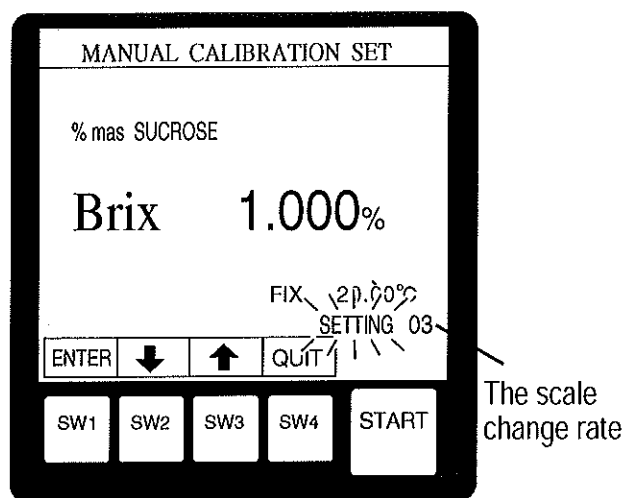
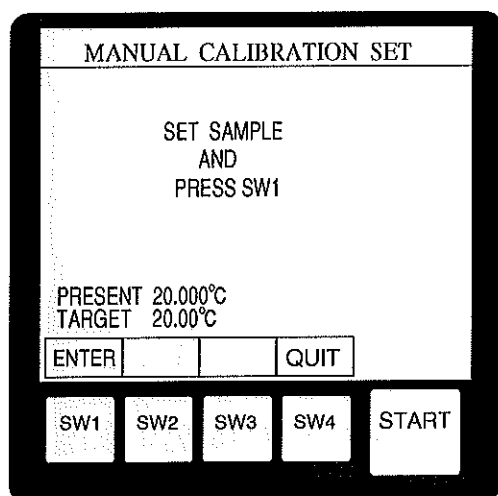

Fig.16-3
Fig.16-2
- Use the SW2(↓) or SW3(↑) key to adjust the arrow (→) to "7 MANUAL CALIBRATION", then press the SW1(ENTER) key. The display switches to a screen as shown in Fig. 16-2 or 16-3.
(1) When you are in a screen as shown in Fig.16-2
If the scale change rate of RX-007 α is currently set to "00"(where the change rate is 0), the display switches to a screen as shown in Fig.16-2. When RX-007 α is shipped from the factory, the change rate is set to "00" (where the change rate is 0).
As the unit switches to a screen as shown in Fig.16-2, the scale change rate is "00" (where the change rate is 0 as set when shipped). If only confirmation is required, press the SW4(QUIT) key, and the unit switches back to a screen as shown in SET UP MENU screen. Press the SW4(QUIT) key again, and the display switches back to a screen as shown in the measurement (or ZERO SET END) display screen.
- While in a screen as shown in Fig.16-2, drop the standard liquid or sample to be adjusted onto the prism surface and close the cover plate, then press the SW1(ENTER) key. After the current temperature(PRESENT) reaches the target temperature(TARGET), the unit starts measurement and switches to a screen as shown in Fig.16-3 after 4 second.
(2) When you are in a screen as shown in Fig.16-3
If the scale change rate of RX-007 α is currently set to "01" - "50" the display switches to a screen as shown in Fig.16-3.
This screen shows the scale change rate set previously and Brix of the liquid used at that time. In the case of Fig. 16-3, for example, the scale change rate is "03".
- Use the SW2(↓) or SW3(↑) key to adjust the arrow(→) to "8 MANUAL CALIBRATION", then press the SW1(ENTER) key. The unit switches to a screen as shown in Fig. 16-2.
- Calibrate according to [When you are in a screen as shown in Fig. 16-2], <When calibrating>.
When the scale change rate is set to "00" (i.e. the change rate is 0), a screen as shown in the Fig.16-2 or 16-3 appears.
When the scale change rate is set to "01" to "50" and "- 01" to "- 50", a screen as shown in the Fig.16-3, 16-4 appears.